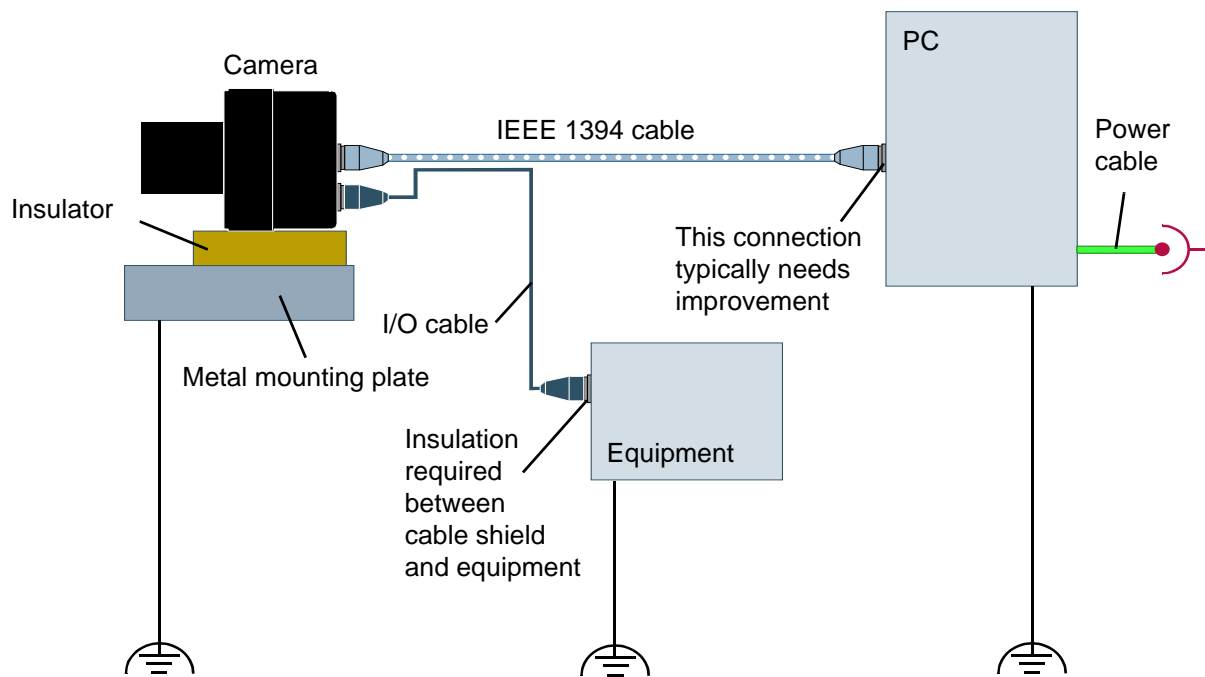

Figure 5: Isolated IEEE 1394 Camera Attached Directly to PC
- Make sure that the PC chassis, the equipment, and the metal mounting plate for the electrical insulator and the camera (see Figure 5) are connected to functional earth ground.
- The I/O ground in the camera is isolated from the camera ground. Therefore, the cable shielding on the I/O cable should only be connected at the camera **OR** at your equipment. We recommend connecting the cable shielding at the camera and insulating it from the equipment (see Figure 5).